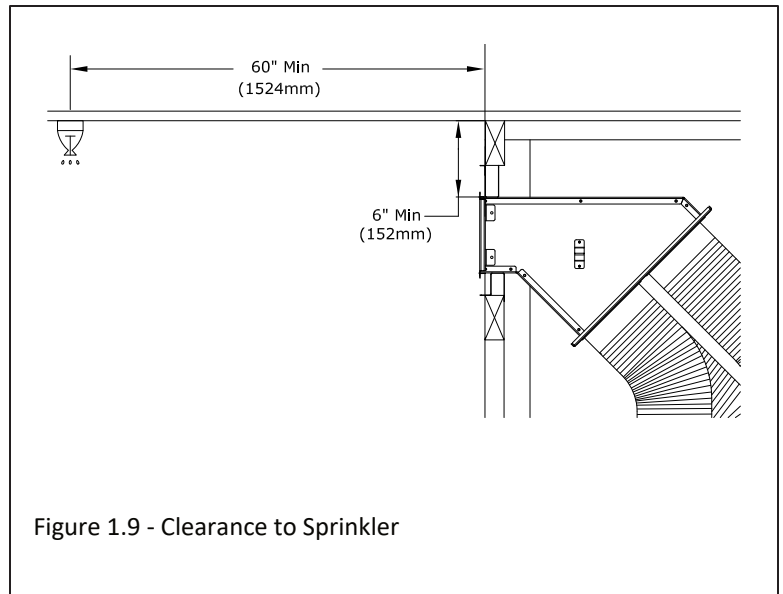

Figure 1.9 - Clearance to Sprinkler
- Figure 1.9 shows a side KZK whereas your installation may look different.